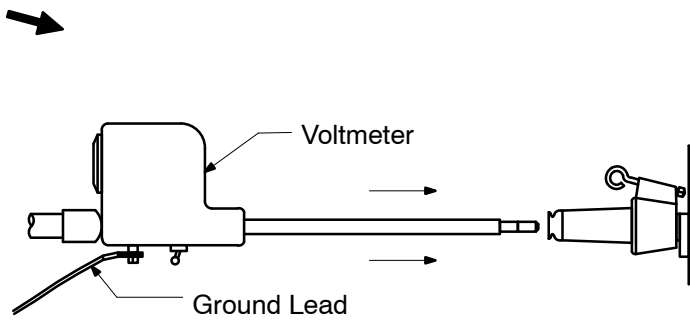

FIGURE 5
5. Attach voltmeter firmly to universal hot stick. Insert meter rod in second plug of feed-thru bushing. Check for voltage. **CAUTION:** Do not leave the meter attached to an energized line any longer than 1 minute. If attached longer, the instrument may overheat. See Figure 5. **NOTE:** Elbow not shown on the feed-thru bushing.